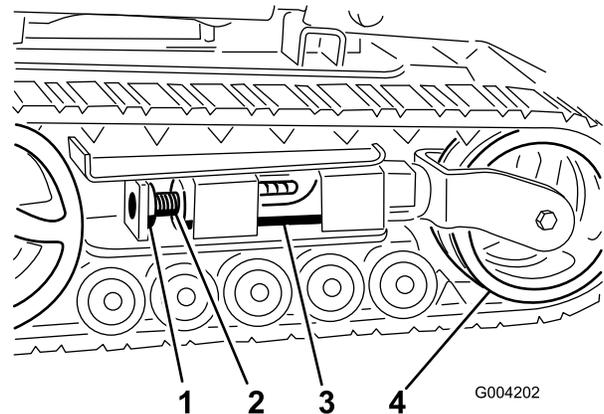

Figure 48
3. Remove the locking bolt and nut (Figure 48).
5. Align the closest notch in the tension screw to the locking bolt hole and secure the screw with the locking bolt and nut (Figure 48).
4. Using a 1/2 inch drive socket, release the drive tension by turning the tensioning screw clockwise (Figure 48 and Figure 49).
4. Using a 1/2 inch drive socket, release the drive tension by turning the tensioning screw clockwise (Figure 48 and Figure 50).